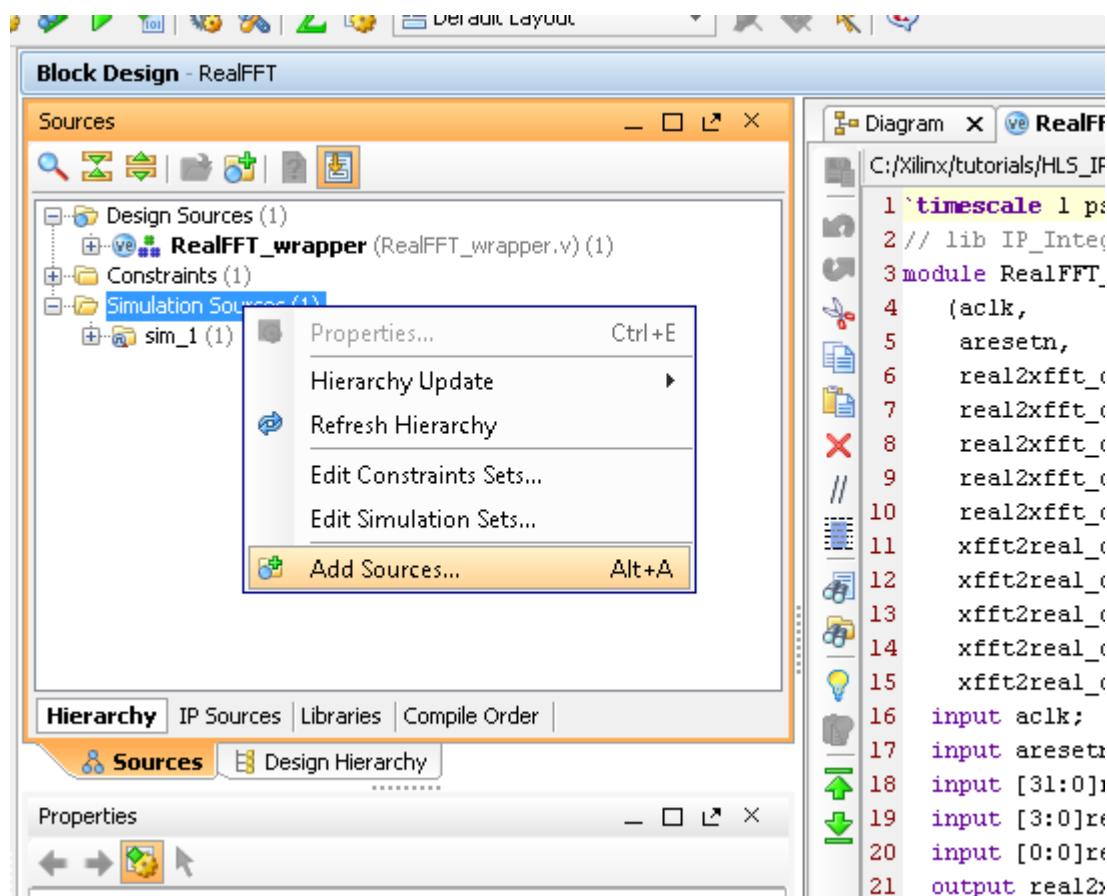

Figure 213 Adding Simulation Sources
1. Right-click on Simulation Sources in Sources tab of Project Manager pane (Figure 213).